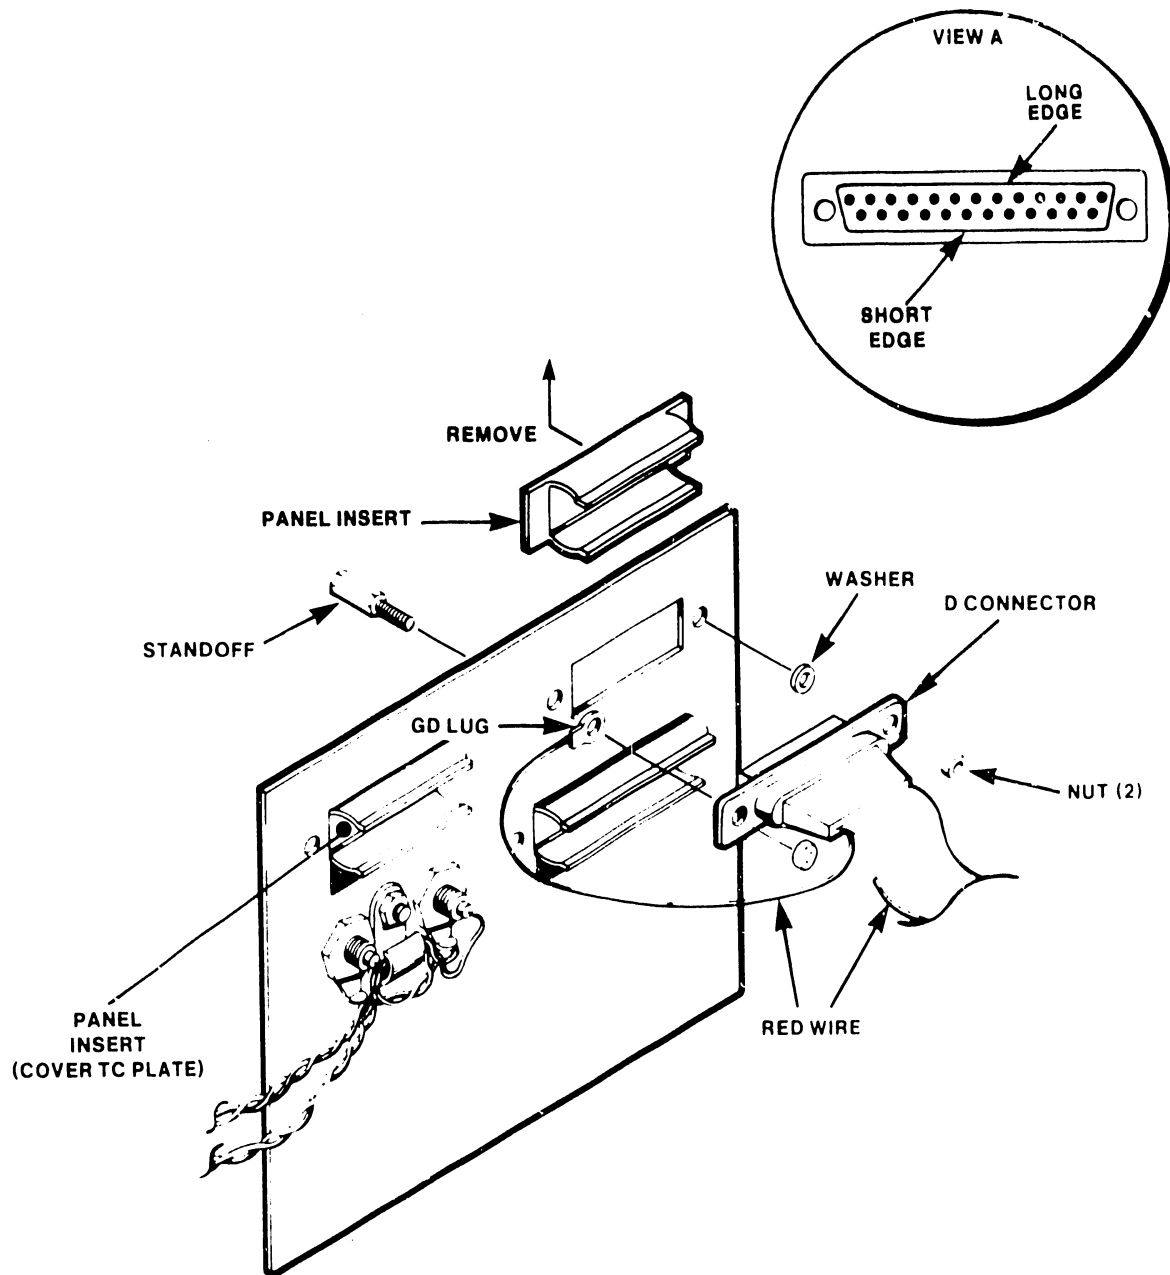

Figure 4-9 RS-232-C or RS-366 Interface Cable Installation
1. Position the TC rear panel as shown in Figure 4-9 (internal side of rear cable panel).
3. Align the cable "D" connector behind the panel slot from which the insert was removed in step 2. Position the connector such that the long edge of the "D" connector is on top (see Figure 4-9, view A).
5. Install the red wire ground lug on one standoff and a washer on the other standoff (Figure 4-9).